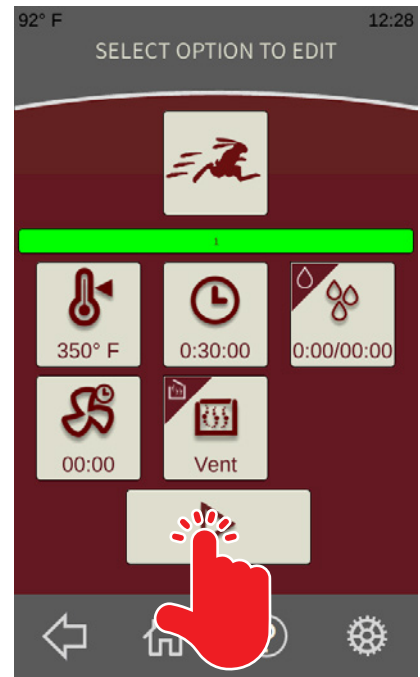

Fig. 8
- Touch the Play button on the **Quick Start Recipe Run Screen** (Fig. 8) to start the oven.